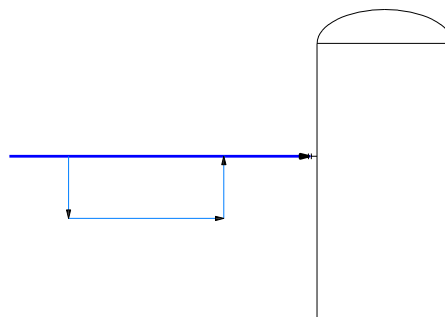

Figure 2-57 Loop created on the previous line
3. Choose **Secondary Line Segment** from the **Lines** tab in the **TOOL PALETTES - P&ID** and create the loop, as shown in Figure 2-57.